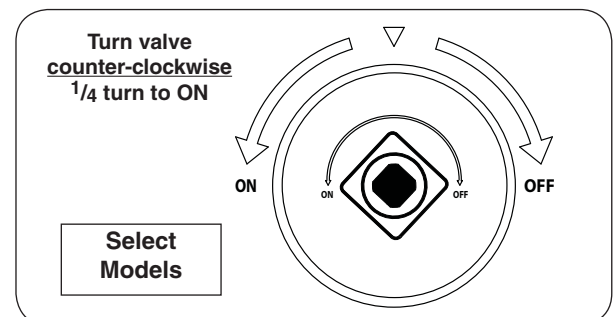

Fig. 41-2 ON/OFF key valve detail
3. If equipped, turn the ON/OFF key valve counter-clockwise a $\frac{1}{4}$ turn to the **ON** position (Fig. 41-2).